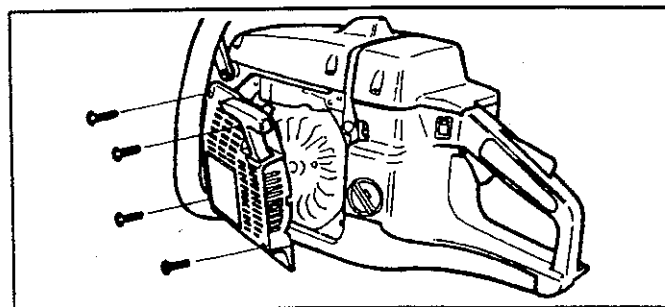

Figure 32
2. Remove the four screws on the side of the fan housing. Figure 32.